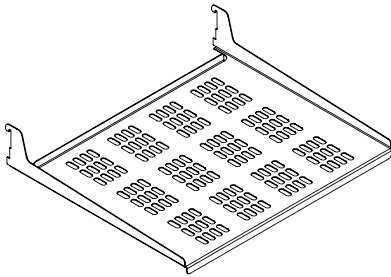

Figure 33
(2) perforated metal cantilever shelves. (See Figure 33).